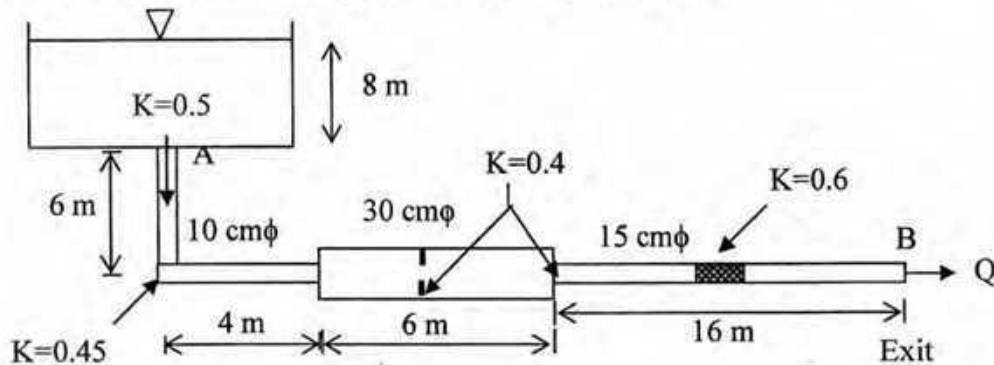

Figure 8
- c. Find total minor losses of Figure 8. Assume, $Q = 0.05 \text{ m}^3/\text{s}$. 13